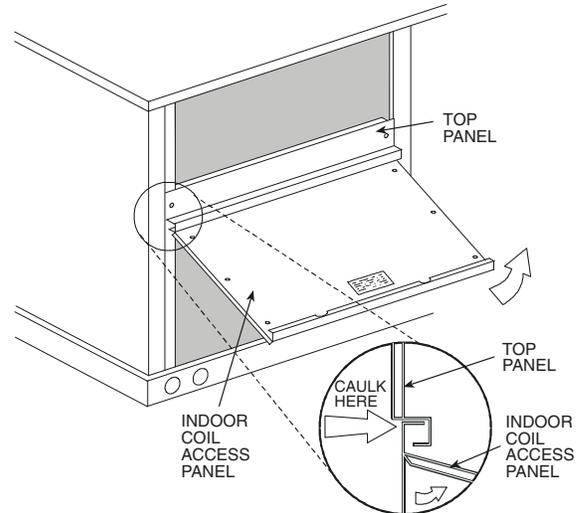

Fig. 10 — Indoor Coil Access Panel Relocation
1. The indoor coil access panel will be used as the top of the hood. Remove the screws along the sides and bottom of the indoor coil access panel. See Fig. 10.